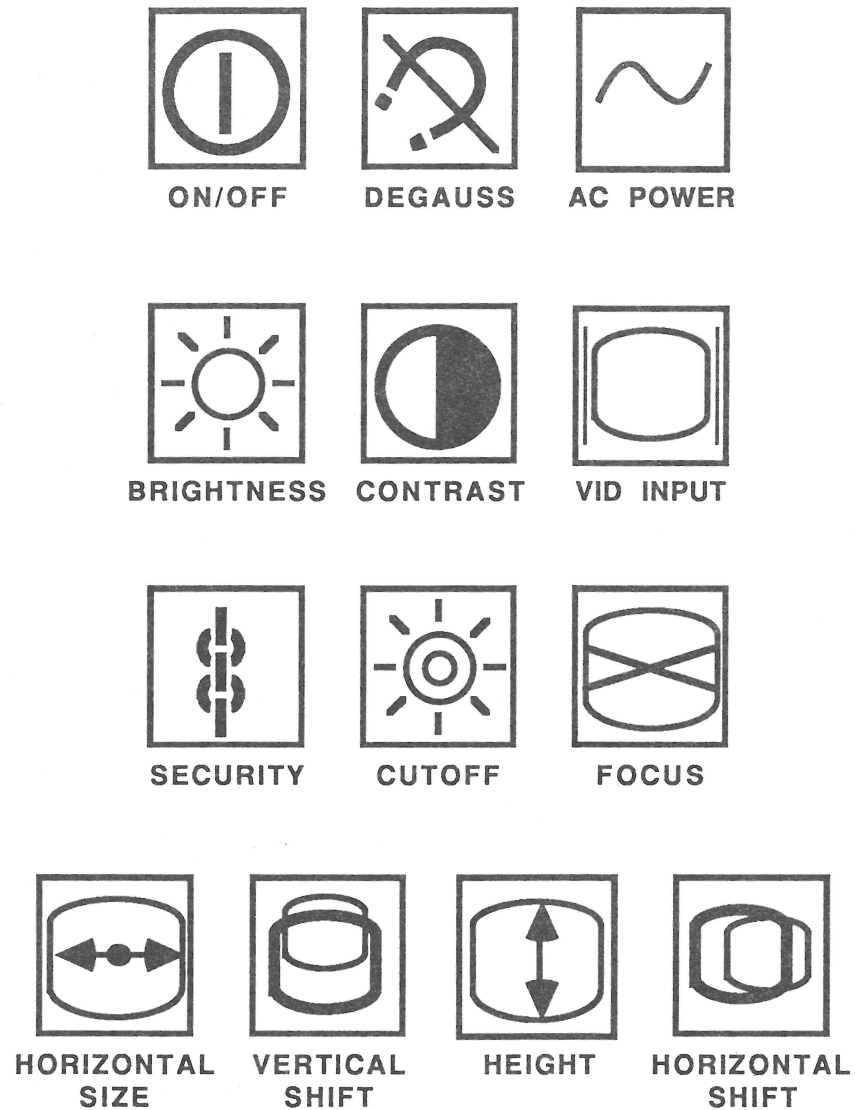

FIGURE 2
- IPL.5 Internal Assembly (Figure 2)
Internationally recognized symbols, shown in Figure 2, are used to identify the external controls.